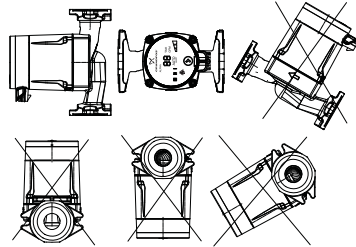

Fig. 3 Installation positions
- Install the pump with the motor shaft horizontal; see fig. 3.